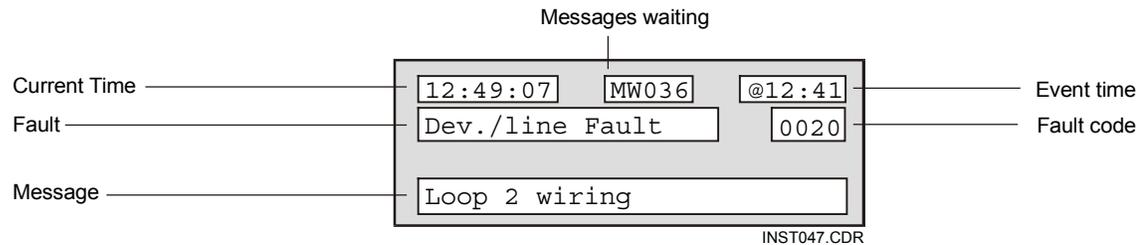

Figure 4-1: Typical fault message
The message in (Figure 4-1) indicates that the current time is 12:49 (PM) and the queue contains thirty-six messages. The Expander Loop Module has a short circuit or open on its SDC, which occurred at 12:41. Table 4-2 provides the meanings of other messages that appear on the 2-LCD.